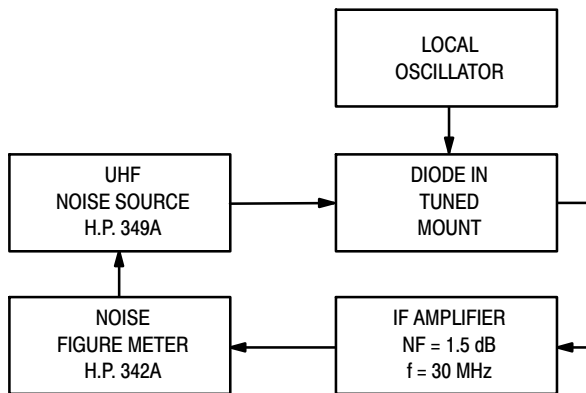

Figure 5. Noise Figure Test Circuit
- Note 2 – Noise figure measured with diode under test in tuned diode mount using UHF noise source and local oscillator (LO) frequency of 1.0 GHz. The LO power is adjusted for 1.0 mW. IF amplifier NF = 1.5 dB, f = 30 MHz, see Figure 5.